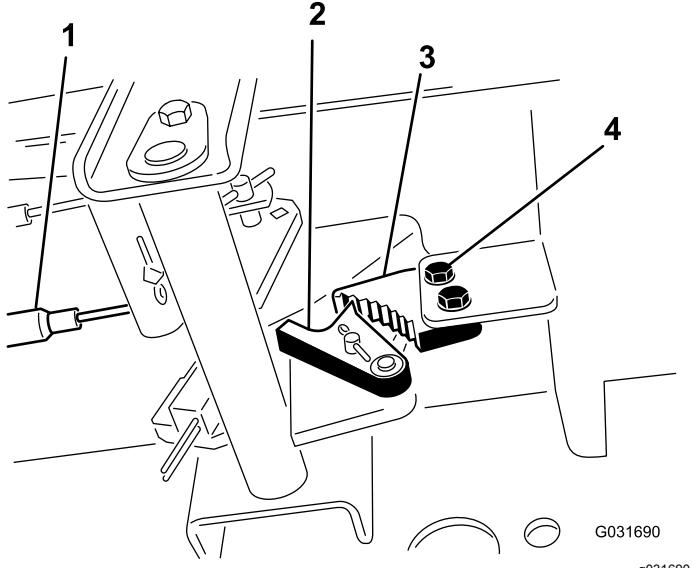

Figure 89
1. Loosen the 2 screws securing the parking brake pawl to the frame (Figure 89).
2. Press the parking brake pedal forward until the brake detent completely engages on the brake pawl (Figure 89).